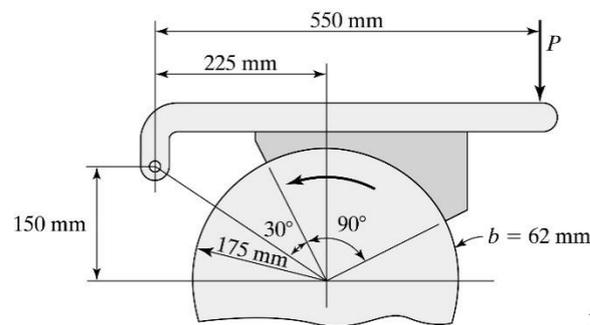

Fig.16
- 23.** Find the value of force P for the brake in Fig. 16. $p_{\max} = 0.7$ MPa. $\mu = 0.25$.